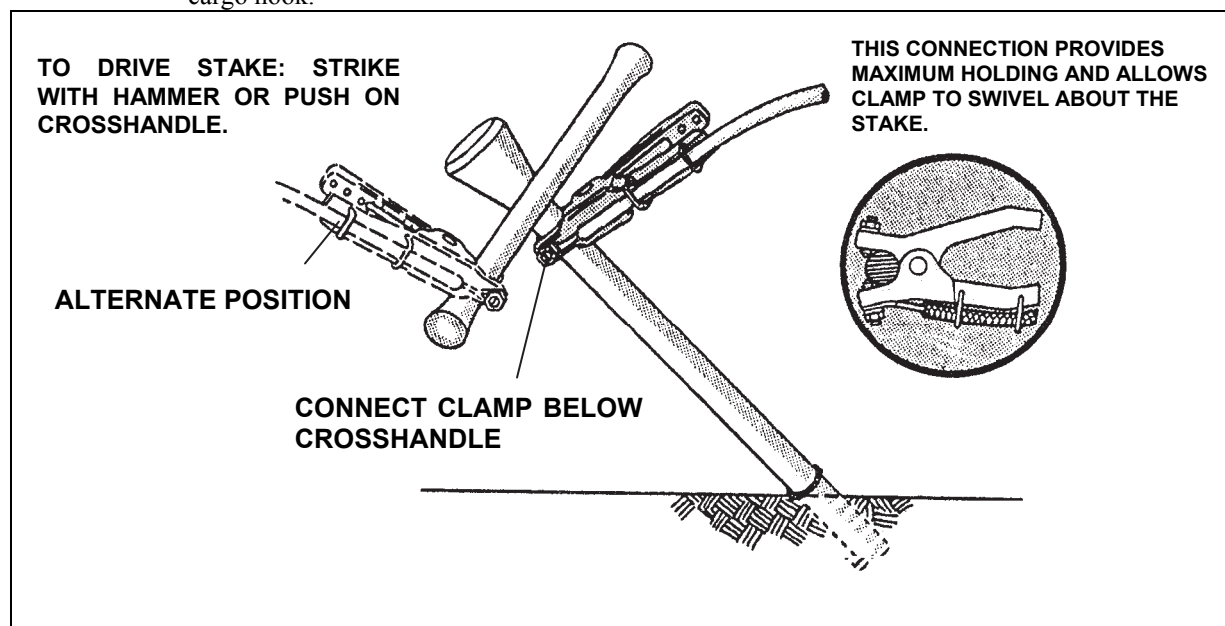

Figure 3-3. Grounding Rod Connection
- Drive the rod into the ground until firmly seated. A minimum of 6 to 8 inches is required in firm ground, 24 inches in sandy or loose soil. Drive the grounding rod in at a 45-degree angle away from the side of the load. This angle will cause the rod to bend, resulting in a less severe injury if someone should fall on it. Connect the cable clamp to the vertical shaft of the stake (figure 3-3).